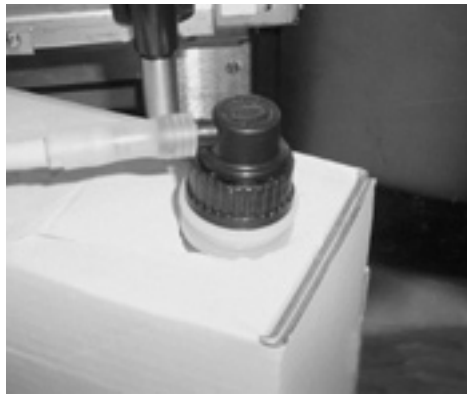

Fig. 2
4. Pull the Adapter fitting down and connect it to the BIB. (See Fig. 2)